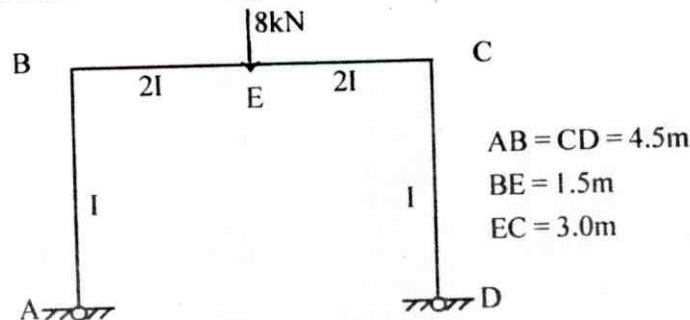

Fig. 7
4. Solve portal frame ABCD using column analogy method. Draw BMD fig. 7. (16)